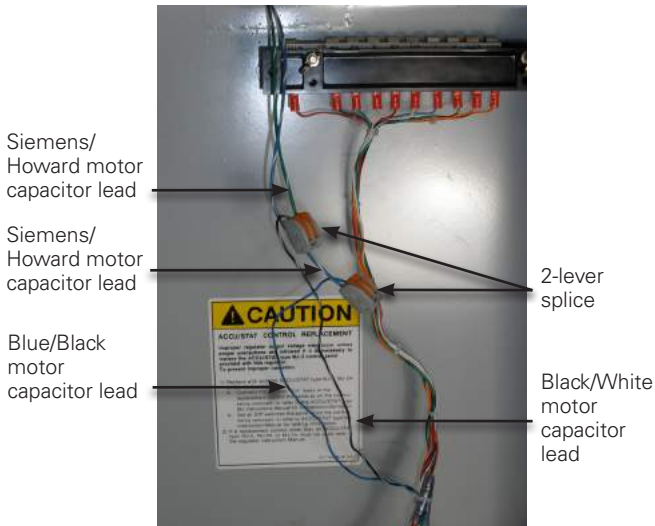

Figure 38. Siemens/Howard motor capacitor lead connections.
- Using one of the 2-position lever splices, connect one capacitor lead from the conduit to either of the motor capacitor leads from the jack-plug wire harness. Repeat the connection for the remaining set of capacitor leads. See Figure 38.